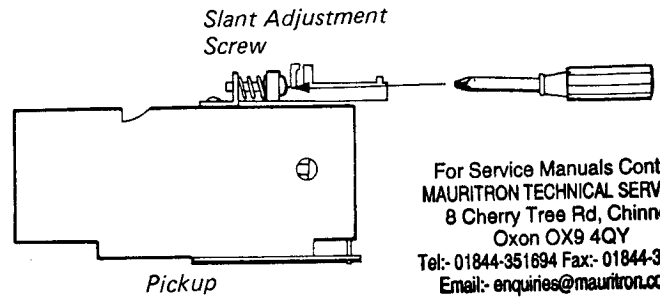

Figure 34
4. When the adjustment is completed, apply screw lock to the slant adjustment screw. (Figure 34)